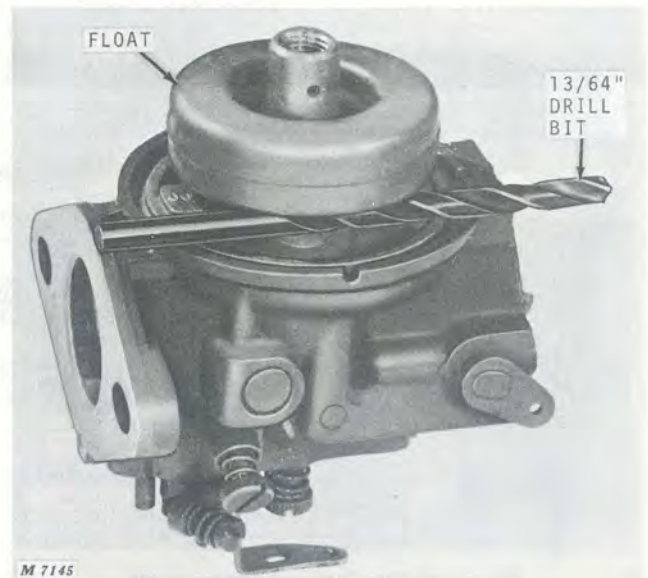

Fig. 4-Adjusting Float
Assemble float (12, Fig. 2), to carburetor housing with float pin (16). Invert carburetor, Figure 4. With float resting lightly on float valve, the distance between float and machined surface of carburetor body should be  $\frac{13}{64}$  inch. To increase or decrease the distance, bend lip on float. Dimension should be made on free end of float (opposite valve seat), Figure 4.